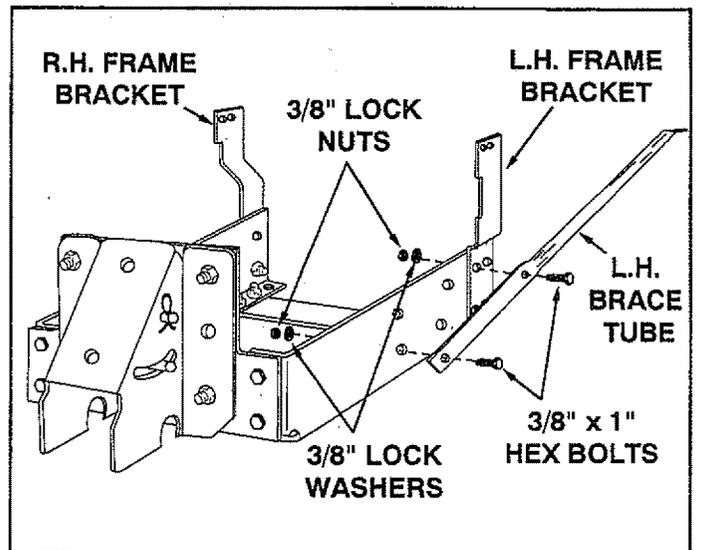

FIGURE 15
- Attach the L.H. brace tube to the outside of the frame assembly as shown in figure 15, using two 3/8 inch x 1 inch hex bolts, lockwashers and lock nuts. The slight bend in the brace tube should angle out, away from the frame assembly. **Do not tighten.** Repeat for R.H. side. See figure 15.